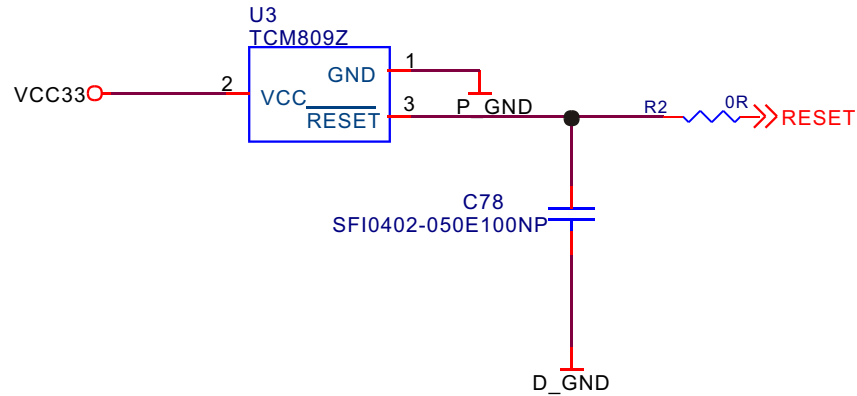

Figure 3.2.8.1 Reset circuit schematic diagram
1. Reset circuit is to provide power on reset level for PNX0101. Reset circuit is shown in the figure 3.2.8.1: